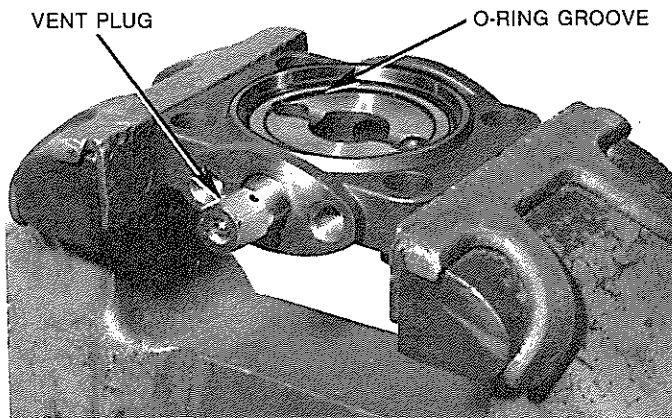

FIGURE 31 – Flange Positioned in Vise A8470
15. Locate the O-rings in the grooves on the process flanges (Figure 31) or on the transducer. Carefully remove the O-rings and set them aside.
Note the position of the vent plug in the remaining process flange (Figure 31). If removed from the vise for replacement, the replacement flange must be placed in the vise in the same position. Vise jaws should clamp on the rough-casted (non-machined) surface of the process flange; The machined surface (with the O-ring groove) should face up.